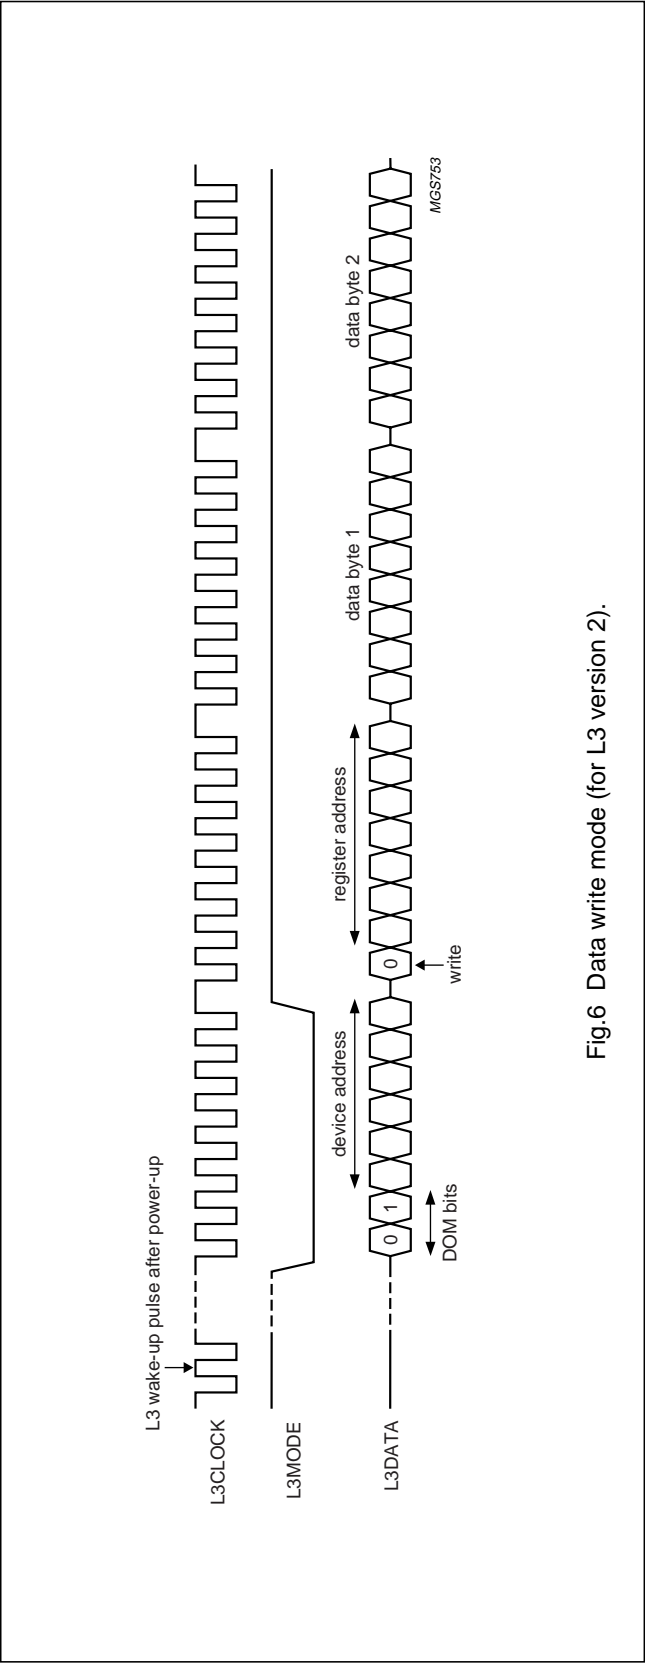

Fig.6 Data write mode (for L3 version 2).
The address mode is used to select a device for a subsequent data transfer. The address mode is characterized by L3MODE being LOW and a burst of 8 pulses on L3CLOCK, accompanied by 8 bits (see Fig.6).
Remark: when the device is powered up, at least one L3CLOCK pulse must be given to the L3 interface to wake-up the interface before starting sending to the device (see Fig.6). This is only needed once after the device is powered up.
1. Addressing for write data: bit 0 is logic 0 indicating a write action to the destination register, followed by bits 1 to 7 indicating the register address (see Fig.6).
The data write mode is explained in the signal diagram of Fig.6. For writing data to a device, four bytes must be sent (see Table 6):